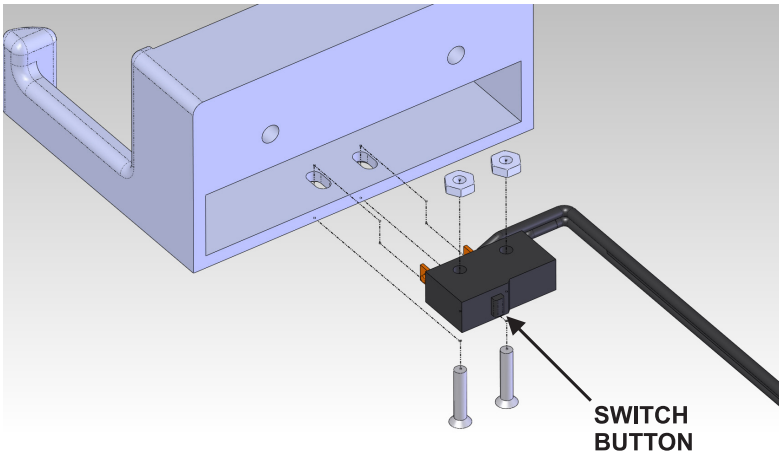

FIGURE 5. Assembling Snap Switch to Handset Hanger
8. Assemble the **Snap Switch** to the handset hanger using the 2-56 x 7/16" long screws and nuts so the switch button faces out. See Figure 5.